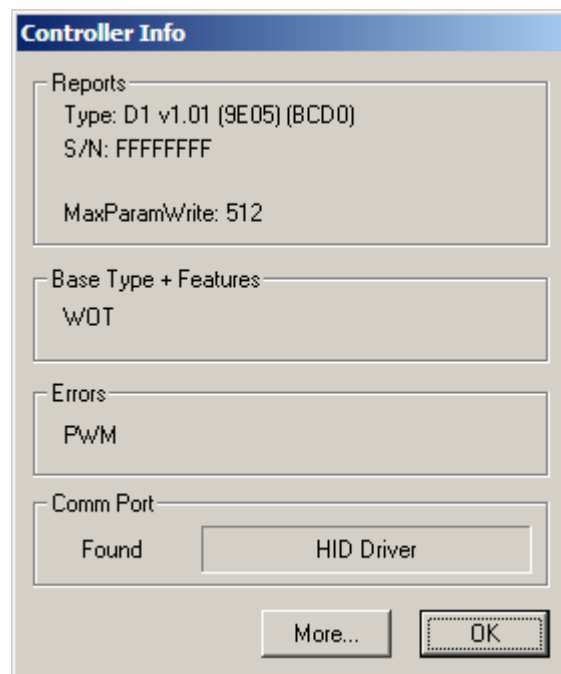

Figure 2: Controller Information
6.2.2. A pop up window should open similar to Figure 2 that will provide specific controller information.